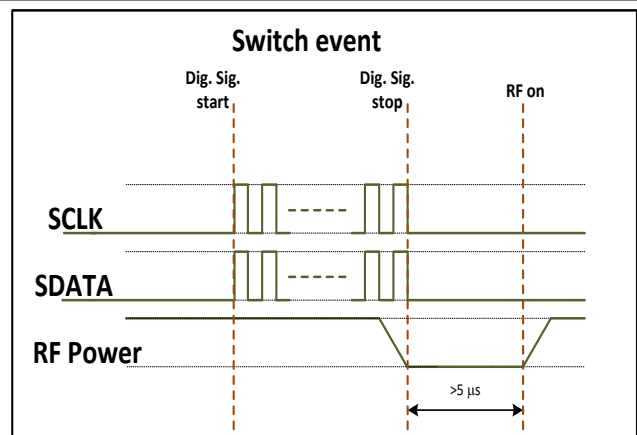

Figure 3 Switch Event Timing
5. RF power must not be applied during switching events. To ensure this, remove RF power before completing a register write that will change the switch mode. (see figure 3)